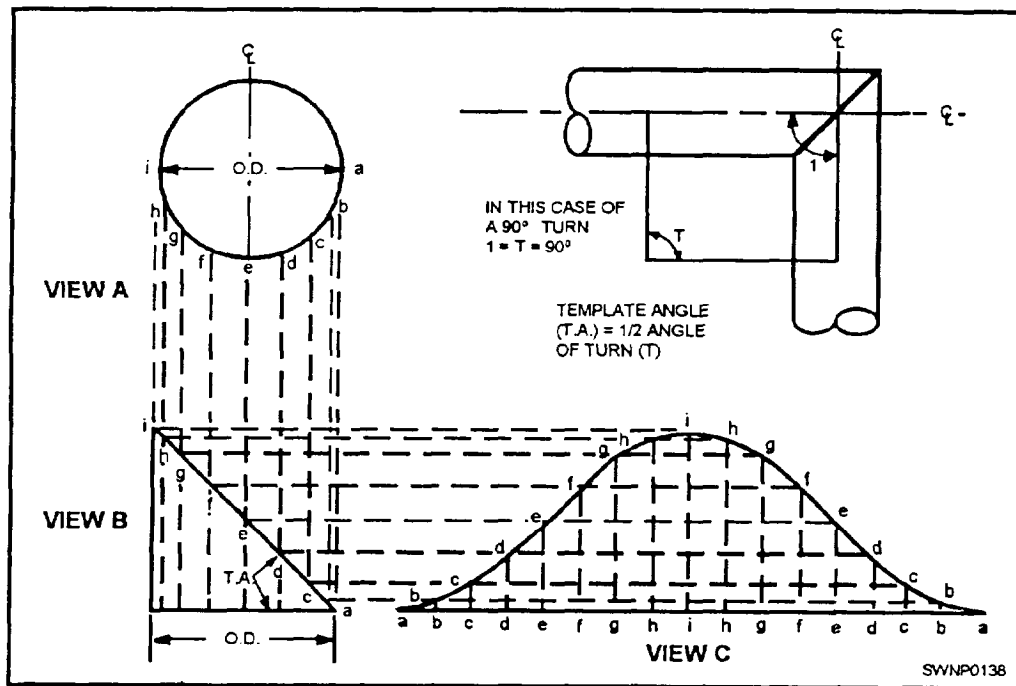

Figure 3-45.—Principles of template layout.
The development of a template is done in practice by dividing the circumference (in the end view) of the pipe into a specific number of equal sections. These sections are then projected onto the side view of the desired pipe section. The lengths of the various segments that make up the pipe wall may then be laid out, evenly spaced, on a base line. This line is, in effect, the unwrapped circumference (fig. 3-45). If the template developed in figure 3-45, view C, is wrapped around the pipe with the base line square with the pipe, the curved line, a-b-c-d-e-f-, and so forth, will locate the position for cutting to make a 90-degree, two-piece turn. Draw a circle (fig. 3-45, view A) equal to the outside diameter of the pipe and divide half of it into equal sections. The more sections, the more accurate the final result will be. Perpendicular to the centerline and bisected by it, draw line AI equal to the O.D. (view B). To this line, construct the template angle (TA) equal to one half of the angle of turn, or, in this case, 45 degrees. Draw lines parallel to the centerline from points a, b, c, and so forth, on the circle and mark the points where these lines intersect line a-i with corresponding letters. As an extension of AI but a little distance from it, draw a straight line equal to the pipe circumference or that of the circle in view A. This line (view C) should then be divided into twice as many equal spaces as the semicircle, a-b-c-, and so forth, and lettered as shown. Perpendiculars should then be erected from these points. Their intersections with lines drawn from the points on a-i in view B, parallel to the base line in view C, determine the curve of the template.